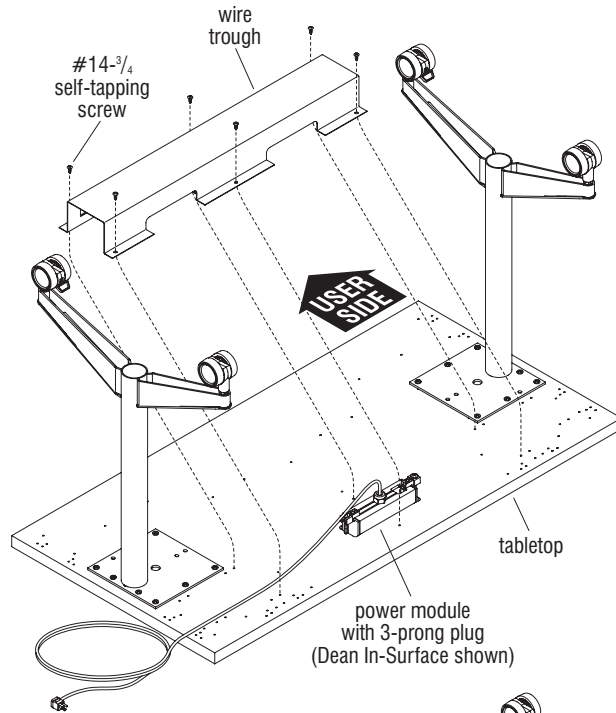
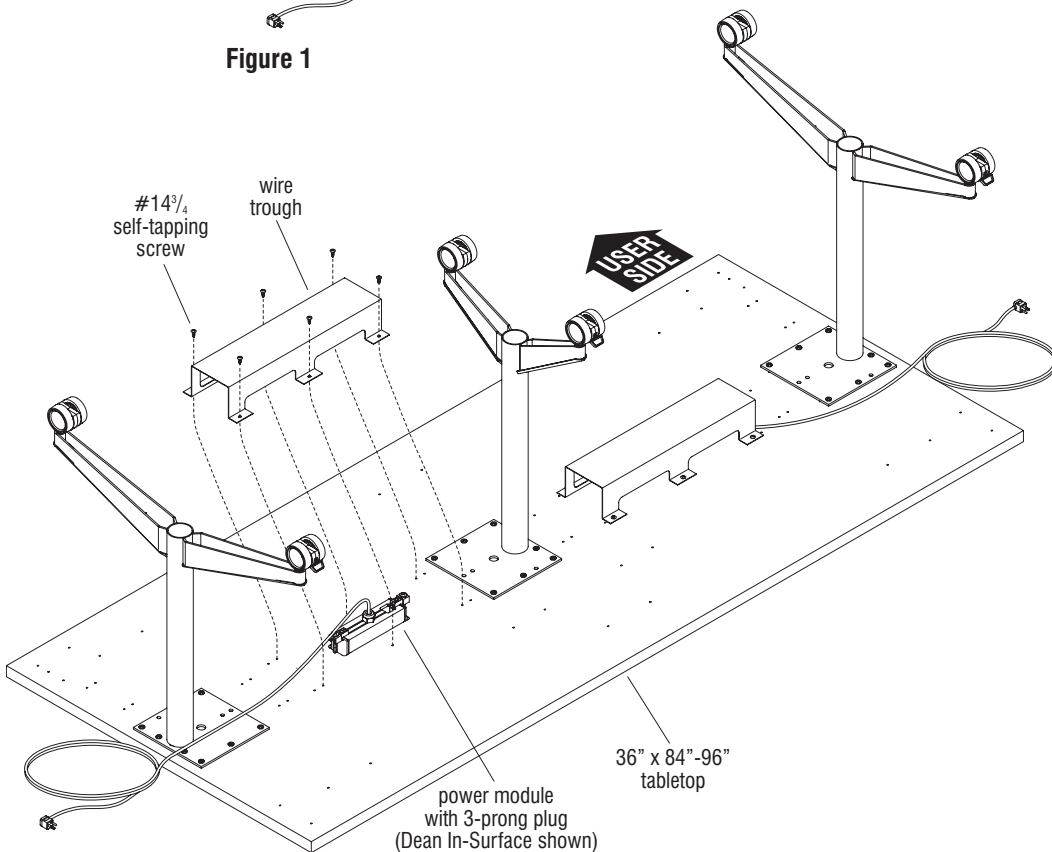

Figure 1
Figure 2
2. If wire troughs are provided, position the wire troughs over the underside of the power modules as illustrated, with the two smaller rectangular RPT mounting holes facing the back edge of the table. Route the power cord out of the end of the troughs. Align the wire trough mounting holes with the pre-drilled holes in the underside of the tabletop, and secure wire troughs to tabletop using six #14 x 3/4" self-tapping screws. Do not over-tighten (Figure 1 & Figure 2).